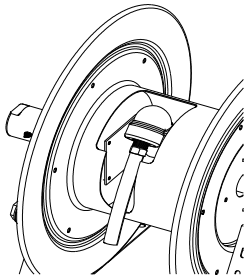

FIGURE 1.0
- Thread male hose fitting into outlet riser(s) (Refer to FIGURE 1.0). Challenger series 112, 117, CM, DM and SM, outlet will be inside drum area. Note: Outlet riser is removable on 1195 series.